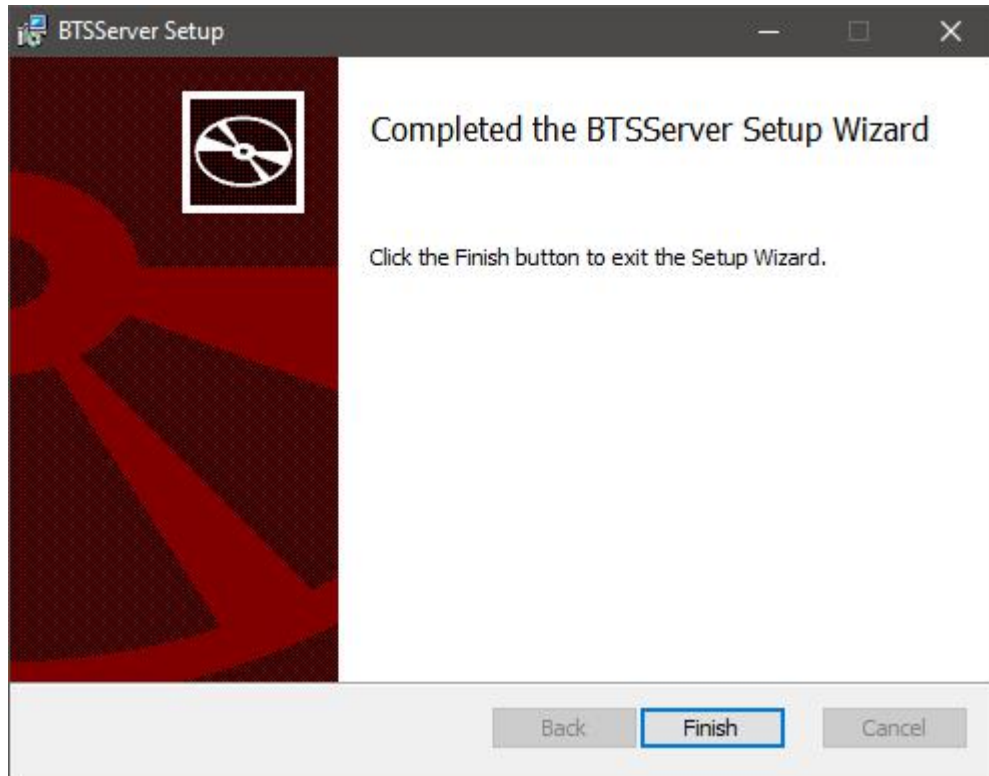

Figure 3.3.4 Installation finish window
3. The installation process bar appears(in the last half of process bar it is normal when two command window appears),click “Finish” after installation. (Shown in the figure 3.3.4)